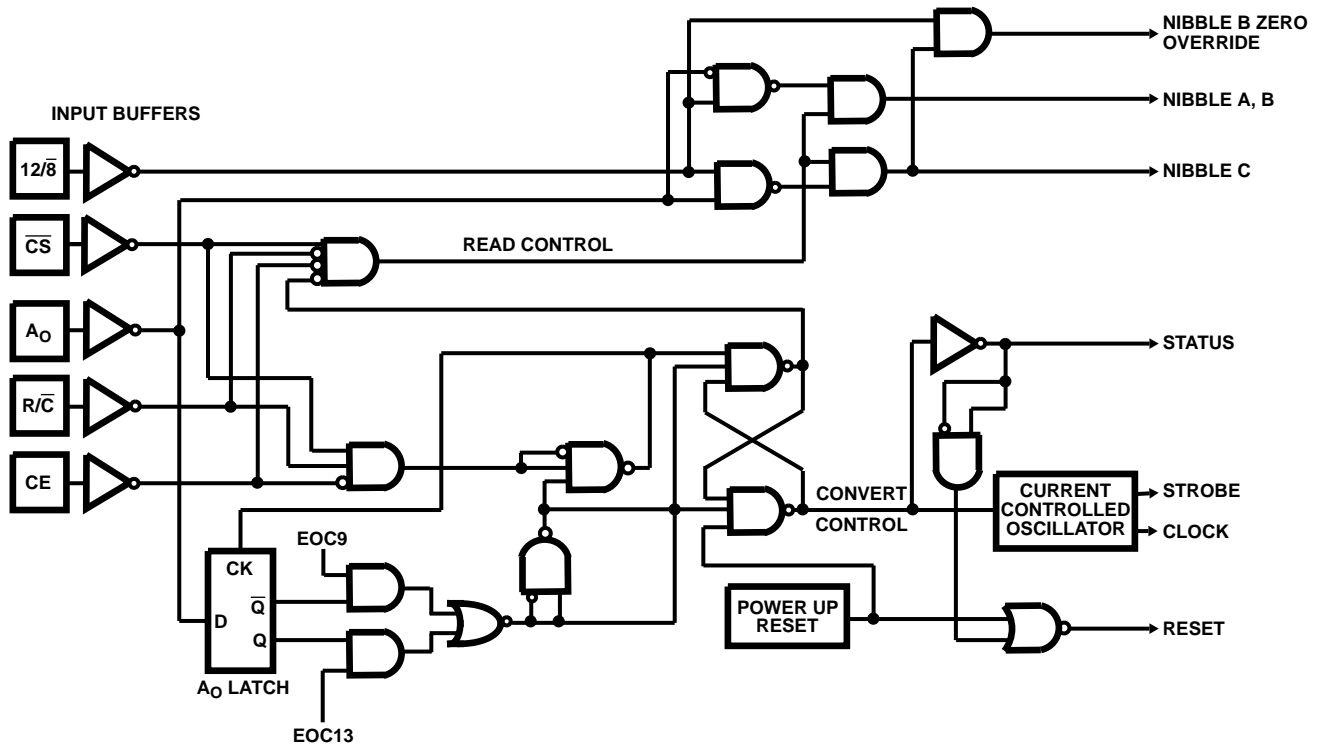

FIGURE 7. HI-774 CONTROL LOGIC
The HI-X74(A) includes logic for direct interface to most microprocessor systems. The processor may take full control of each conversion, or the converter may operate in the “stand-alone” mode, controlled only by the R/C input. Full control consists of selecting an 8 or 12 bit conversion cycle, initiating the conversion, and reading the output data when ready-choosing either 12 bits at once or 8 followed by 4, in a left-justified format. The five control inputs are all TTL/CMOS-compatible: ($12/8$, \overline{CS} , A_O , R/\overline{C} and CE). Table 1 illustrates the use of these inputs in controlling the converter’s operations. Also, a simplified schematic of the internal control logic is shown in Figure 7.